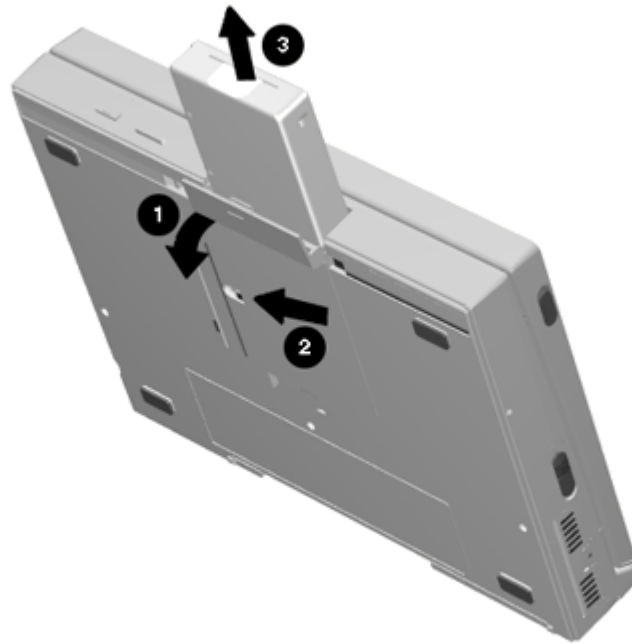

Figure 5-11. Removing the Hard Drive
2. Open the hard drive bay door [1], and while holding the hard drive release actuated [2], pull on the tab [3] to remove the hard drive (Figure 5-11).
1. Open the hard drive bay door and insert the hard drive with the label facing up and the hard drive connector facing the inside of the bay. Make certain that the pull tab on the hard drive does not get trapped under the drive (Figure 5-11).